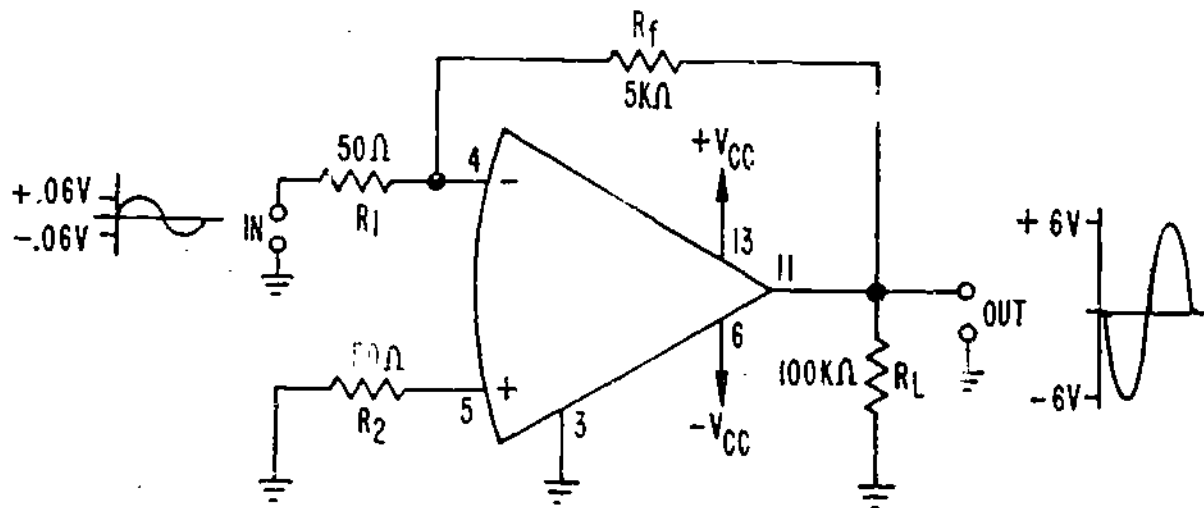

Figure 5
For the circuit shown in Figure 5, the gain of the amplifier would be computed as follows:
In Figure 5, $V_{\text{out}} = .06V (100) = 6V$.